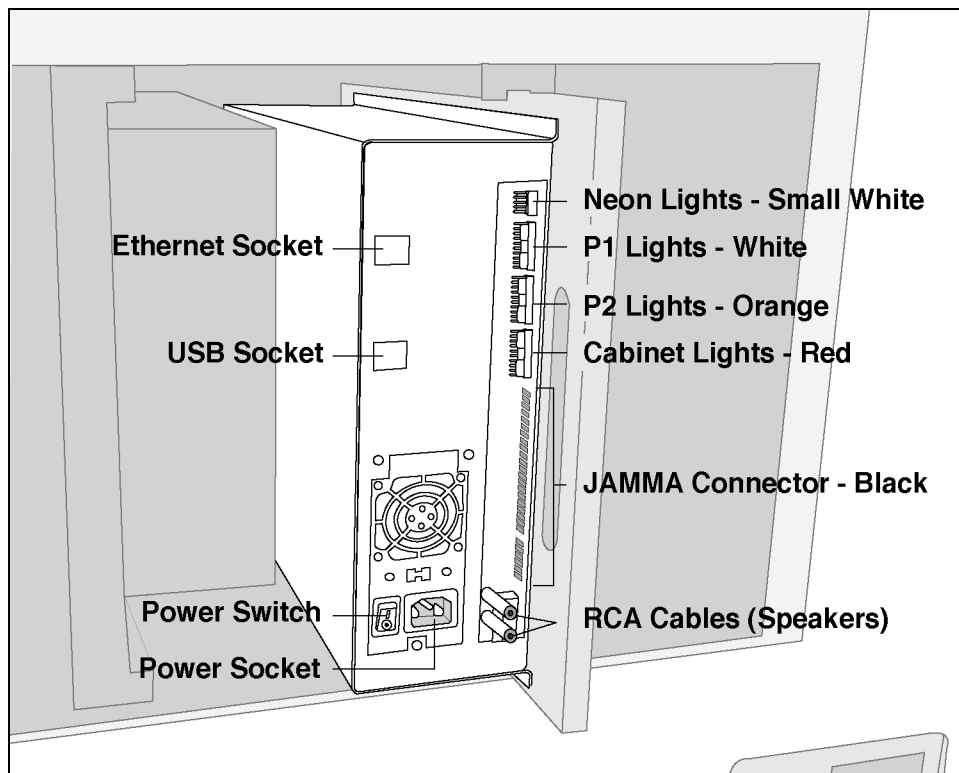

Figure 4: Wiring Diagram
3. Insert the molex connectors in the next few steps. Note that the direction of the tab on the plug is crucial and improper attachment can result in damage to the IO board. Refer to Figure 4.